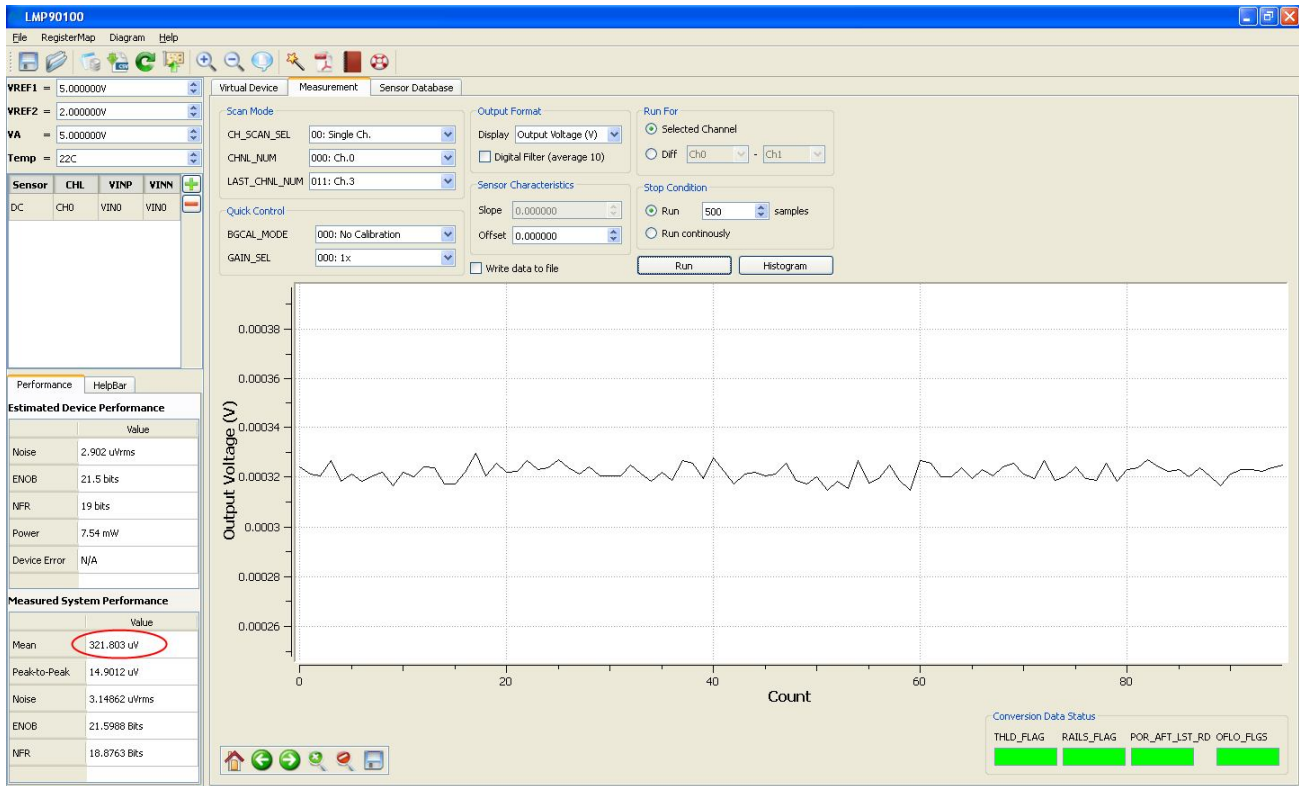

Figure 9 - Results for Shorted Input Test without Calibration
- b. Under the “Output Format” field, select Display “Output Voltage (V)”
- d. Click on the “Run” button to view the output voltage results. A reading in the hundreds of uV should be plotted similar to Figure 9.